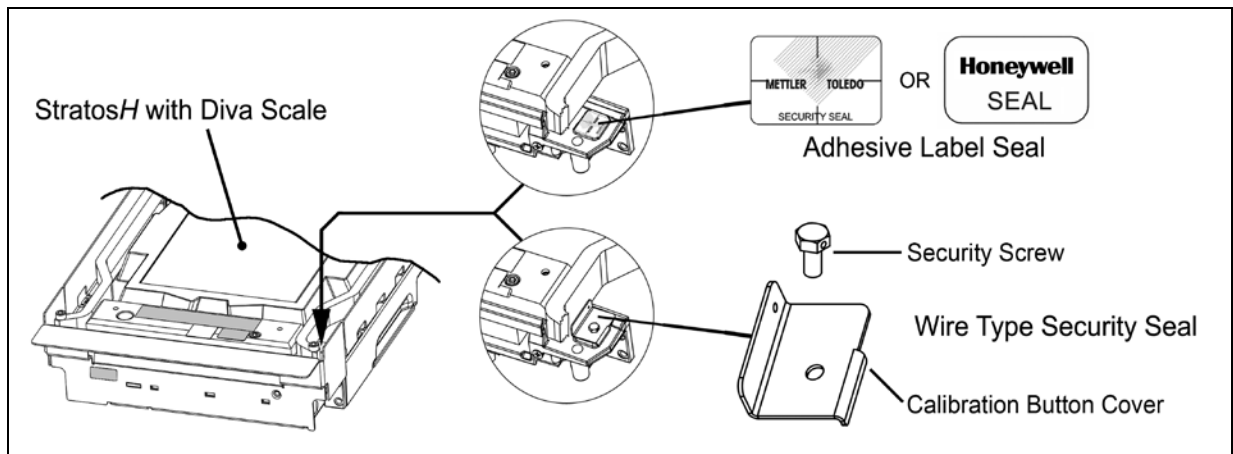

Figure 46. Diva Scale security seals
- Go to **Group 1 Step 8** (Weight Unit) of the Service Mode by pressing the Zero ($\rightarrow 0 \leftarrow$) key several times until 'Group 1 Step 8' is displayed on the Remote Scale Display screen (see Figure 46 below).